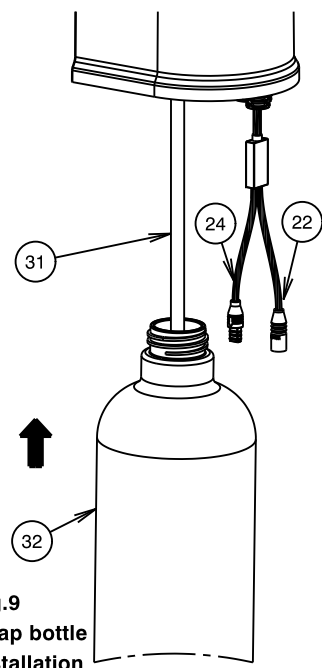

Fig.9 Soap bottle Installation
- iii) Mount the control unit (16) onto the screws (28).
5) Soap Bottle Installation (See Fig. 9)